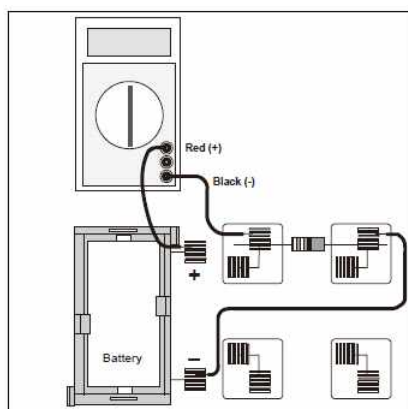

Figure 3.1a
- (1) Choose one of the resistors that you have been given. Using the resistor chart on Appendix, decode the resistance value and record that value in the first column of Table 3.1.
- (2) MEASURING CURRENT: Construct the circuit shown in Figure 3.1a (*connect the red lead to the mA input*) by pressing the leads of the resistor into two of the springs in the Experimental Section on the Circuits Experiment Board.
- (3) Set the Multimeter to the 200 mA range, noting any special connections needed for measuring current. Connect the circuit and read the current that is flowing through the resistor. Record this value in the second column of Table 3.1.
- (4) Remove the resistor and choose another. Record its resistance value in Table 3.1 then measure and record the current as in steps 2 and 3. Continue this process until you have completed all of the resistors you have been given. As you have more than one resistor with the same value, keep them in order as you will use them again in the next steps.